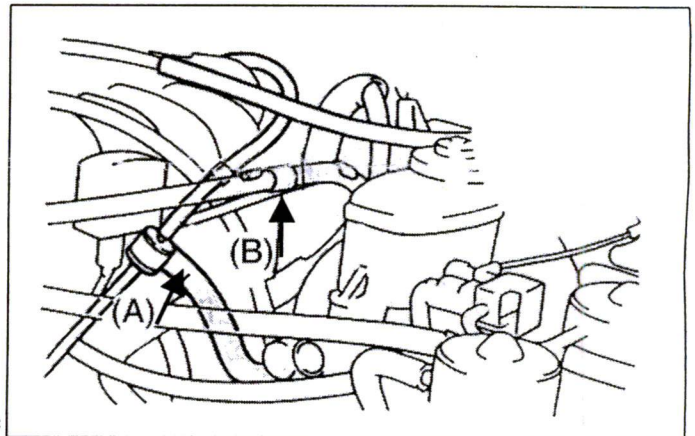

Figure 3
- Disconnect the brake booster hose from the air intake chamber (A) in Figure 3.
- Remove the throttle cable bracket attached to the air intake chamber (B) in Figure 3.